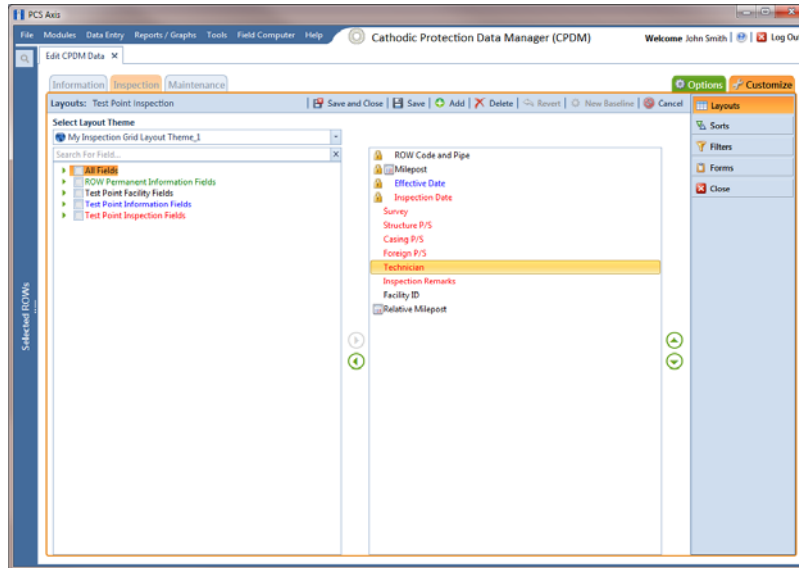

Figure 7-83. Layouts
- 8 Click  **OK** to save changes and return to the *Layouts* page (Figure 7-83, page 299).